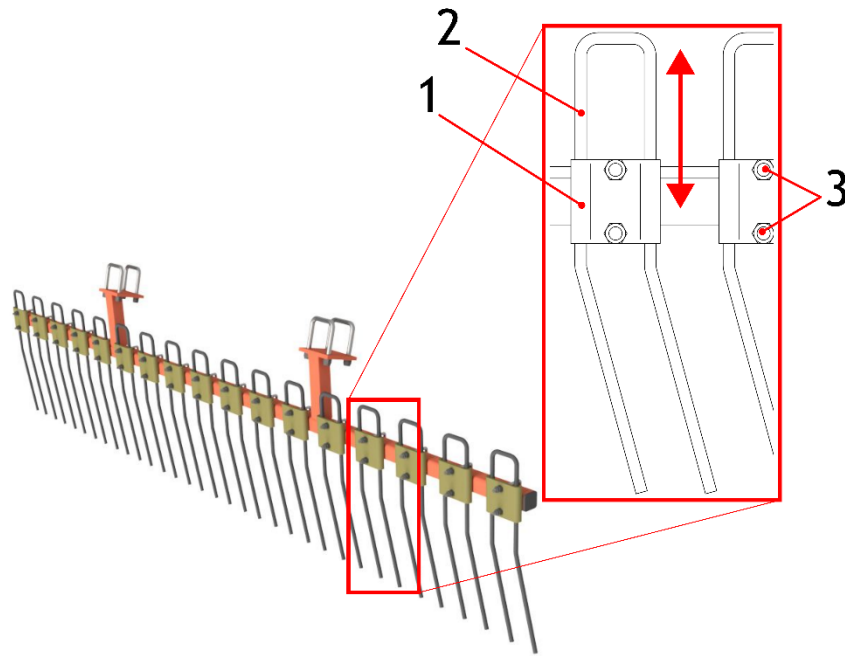

Figure 24 Adjustment of the position of the spring screen claws (1 – mounting plate, 2 – spring claw, 3 – fastening nuts)
1. Loosen the nuts (Fig. 24, item 3) and the plate (Fig. 24, item 1),
2. Extend upwards or retract downwards the claw (Fig. 24, item 2),